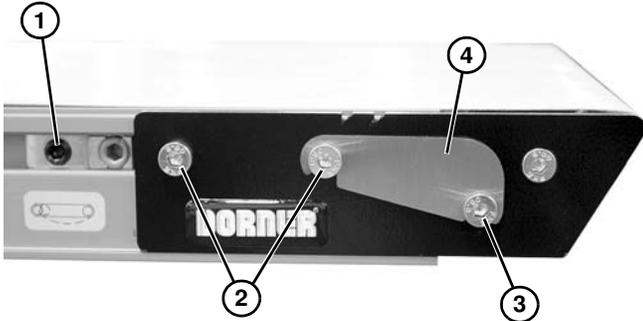
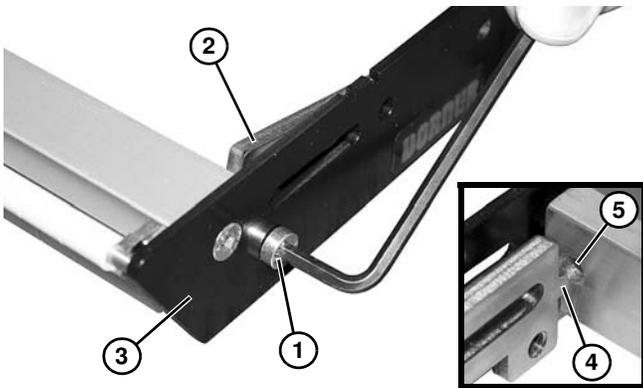

Figure 102
Figure 103
1. On both sides of conveyor, loosen cam fastening screw (**Figure 102, item 1**) (if equipped) and slide cam assemblies toward the center of the conveyor.
2. On both sides of conveyor, loosen two fastening screws (**Figure 102, item 2**) to remove belt tension. Remove belt from end of conveyor.
3. On both sides of conveyor, loosen fastening screw (**Figure 102, item 3**) and remove dust cover (**Figure 102, item 4**) (if equipped).
4. Remove nosebar tail from the conveyor and place on an open work surface. On one side of nosebar tail, remove two fastening screws (**Figure 102, item 2**).
5. Remove lower screw (**Figure 103, item 1**) and remove tail nut bar (**Figure 103, item 2**) and side plate (**Figure 103, item 3**).
*During reassembly, make certain that the tail nut bar nipple (**Figure 103, item 4**) is inserted into the support bar hole (**Figure 103, item 5**).*
8. Assemble and install head plate in reverse order of removal. Use a hex-key wrench to tighten lower screw (**Figure 103, item 1**) to 30 in-lb (3.4 Nm). Leave two fastening screws (**Figure 102, item 2**) loose for belt tensioning.